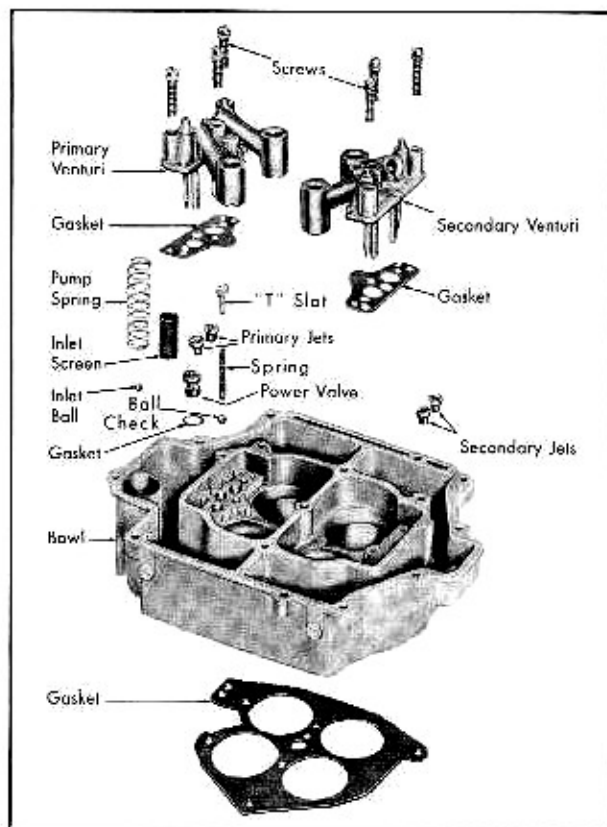

Fig. 12-49 Bowl Assembly Disassembled
2. With bowl upright, drop ball and copper spring into bore under primary venturi cluster location. Refer to Fig. 12-49. Then put "I" slot into the fixed position of the bore causing the spring to become compressed.